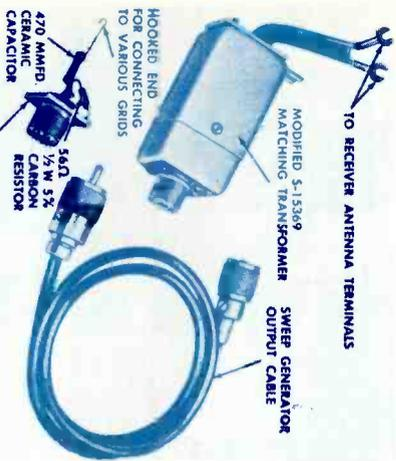
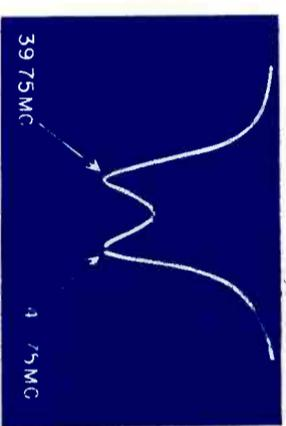

Fig. 22 IF-RF Alignment Fixtures
Fig. 23 4th IF Response.
3. Feed the output from the sweep generator through the special termination unit shown in Fig. 22 to point "C" (Pin 1 of 6CB6, 3rd IF). Adjust the generator until a pattern similar to Fig. 23 is obtained.
4. Set the Marker Generator to 45.75 Mc and alternately adjust the top and bottom slugs of the 4th IF transformer for maximum gain and symmetry with the 45.75 Mc markers positioned as shown in Fig. 23. The 39.75 Mc marker can be within ±0.5 Mc of the specified frequency. If the correct response curve cannot be obtained in this step, check the position of the two slugs to see that they are entering their respective coils from the opposite ends of the coil form. The position of the align near the center of the coils may change the coefficient of coupling, making correct alignment difficult if not impossible.
3. Use the S-15369 matching transformer (Fig. 22) and feed the output from the sweep generator to the antenna terminals of the receiver.